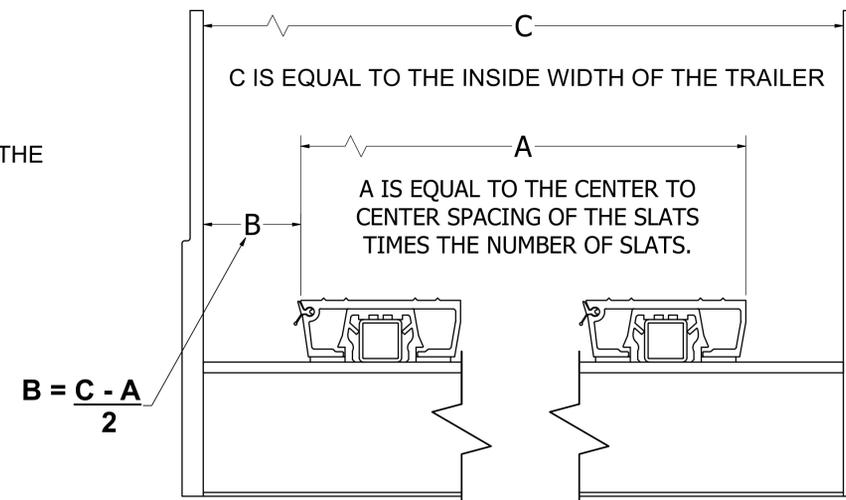

FIGURE 6: SIDE SEAL SIZING
1. USE FIGURE 6 TO DETERMINE SIDE SEAL DIMENSIONS.